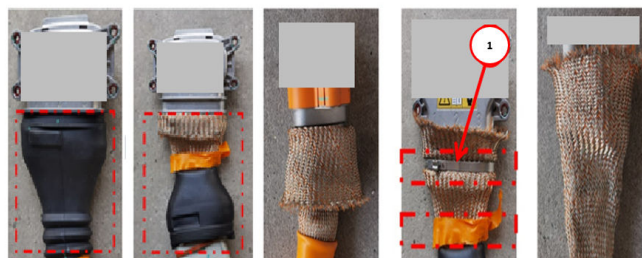

Fig. 3
7. Fold the rubber sleeve backward to its maximum position to expose the metal mesh shielding Fig. 3.
8. Remove the tape from the shielding layer and remove the metal clamp, then stretch the mesh shielding layer up forward Fig. 3.